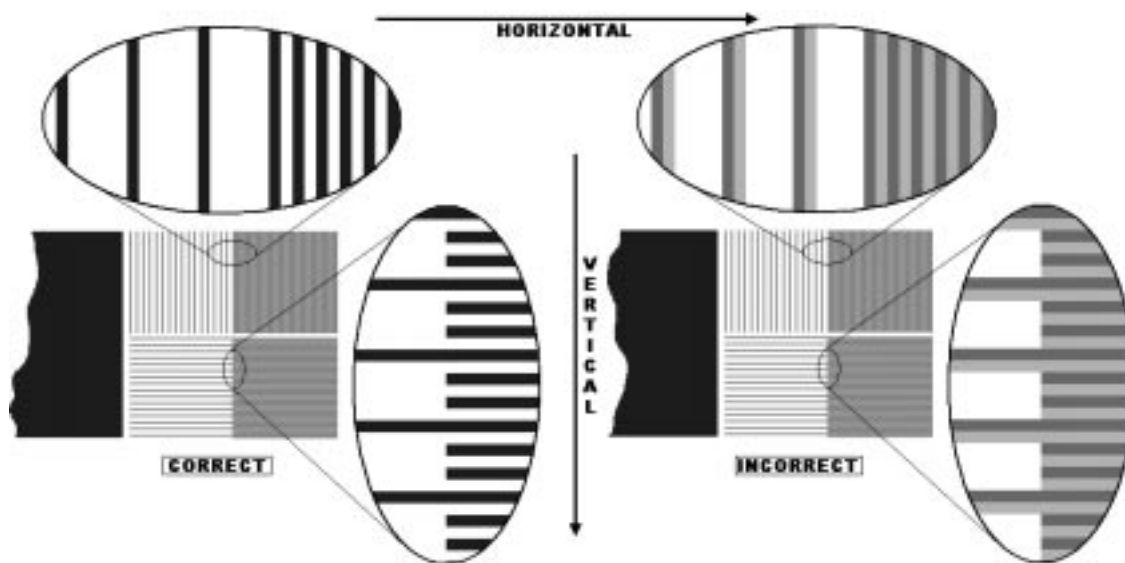

Figure 5
There are two types of misalignment (see Figures 5 and 6):
- Alignment Problem:** Third color present/misalignment in either the boxes or circles of the test image (see Figures 5 & 6).